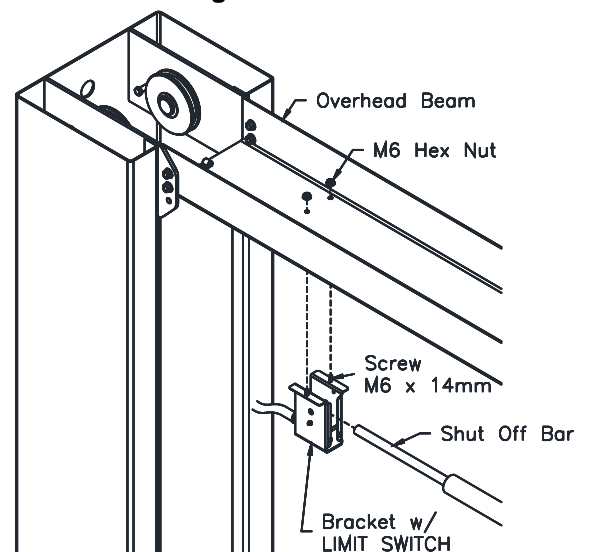

Fig. 4a – Overhead Limit Switch Power Side
- 15) Install Overhead Limit Switch to the Overhead Beam using the rear set of holes on the Power Side of the lift. **Fig. 4a**.